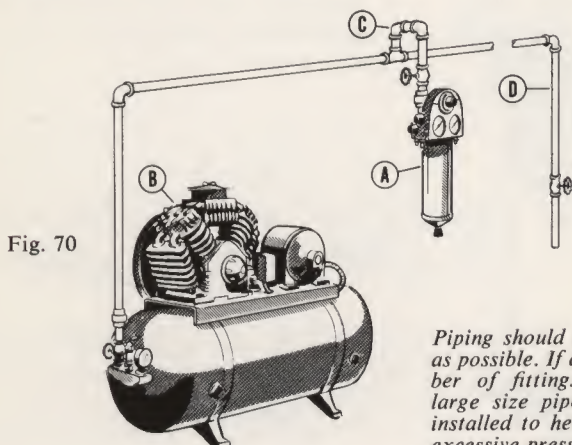

Fig. 70
85. How should the transformer be installed? (Fig. 70)
- Bolt transformer (A) securely to spray booth or some similar, sturdy object near the operator for convenience in reading the gauges and operating the valves. Install the transformer at least 25 feet from the compressing outfit (B).
- Take-off should be from the top of the air line (C).
- Piping should slope toward the compressor air receiver or a drain leg (D) installed at the end of the air line or at the end of each branch, to provide for drainage of moisture from the air line.